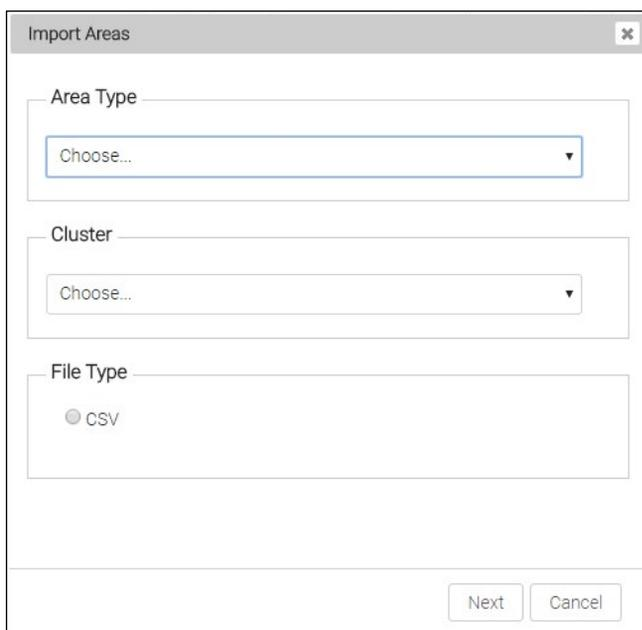

Figure 19-2
3. Select the file type that you want to import (Shapefile or CSV) and then click **Next**. Refer to Figure 19-2.